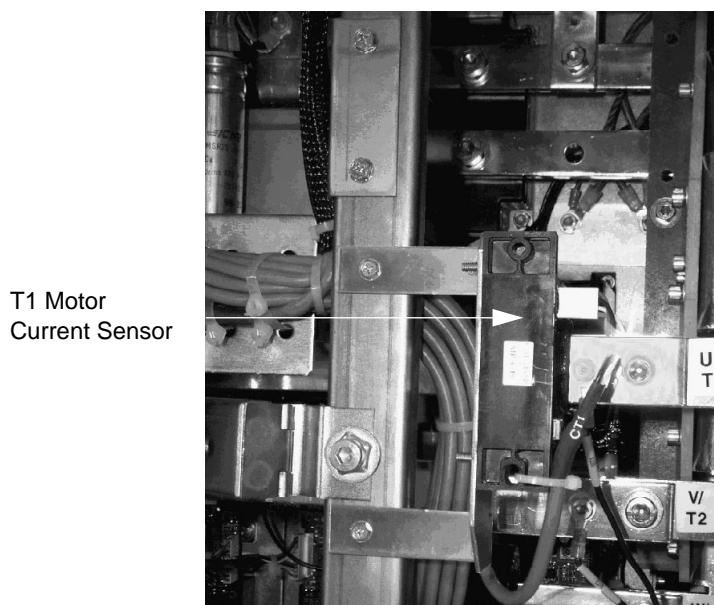

Figure 4.3.26: Motor Current Sensor with Extended Bus Bar Connections (Current Construction)
10. If the motor current sensor in the T1 extender bus bar is installed as illustrated in Figure 4.3.26, then disconnect the CT1 and CT3 cables from the motor current sensors. Loosen and remove the two screws securing the T1 motor current sensor to its mounting bracket. Loosen and remove the two bolts securing the T1 and T2 extender bus bars and the one bolt and nut securing the T3 extender bus bar. Remove the extender bus bars from the drive controller.
5. After installing the snubber boards in the right-most inverter IGBT section, install the three extender bus bars that connect the individual inverter IGBT sections to the output terminals. If the drive controller being serviced had the motor current sensor installed as illustrated in Figure 4.3.26 on page 4.3.32, slide the motor current sensor over the extended bus bar with its cable connector facing toward the output terminals. Secure the motor current sensor to its mounting bracket and torque the two screws to 18 lb-in (2.0 N•m). Secure the T3 extender bus bar to the output terminal assembly with a hex head bolt and washer and to the right-most IGBT interconnecting bus with a nut and washer. Torque the nut and bolt to 148 lb-in (16.7 N•m). Secure the T1 and T2 extender bus bars to the output terminal assembly and the matching L-shaped riser bar with hex head bolts and washers. Torque the bolts to 148 lb-in (16.7 N•m). On each extender bus bar, reconnect the sense wire near the output terminals using hex head screws (see Figure 4.3.25 on page 4.3.32). Follow the wire labeling to connect T1 to T1, T2 to T2 and T3 to T3. Torque the three screws to 36 lb-in (4.0 N•m). Reconnect the CT1 and CT3 cables to the motor current sensors on the T1 and T3 extender bus bars. Use a wire tie to secure the CT1 cable to the T1 motor current sensor.